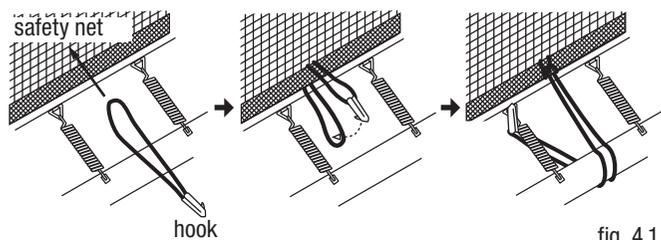

fig. 4.1
Hook one end of a rubber band with one hook (G) between two lower bars (B) onto the net's edge, then pull the other end around the main frame and connect securely to the mat frame and net bar (Fig. 4.1 + 4.2). NOTE: For better visibility, the frame cushion has been left out of the illustration in Fig. 4.1.